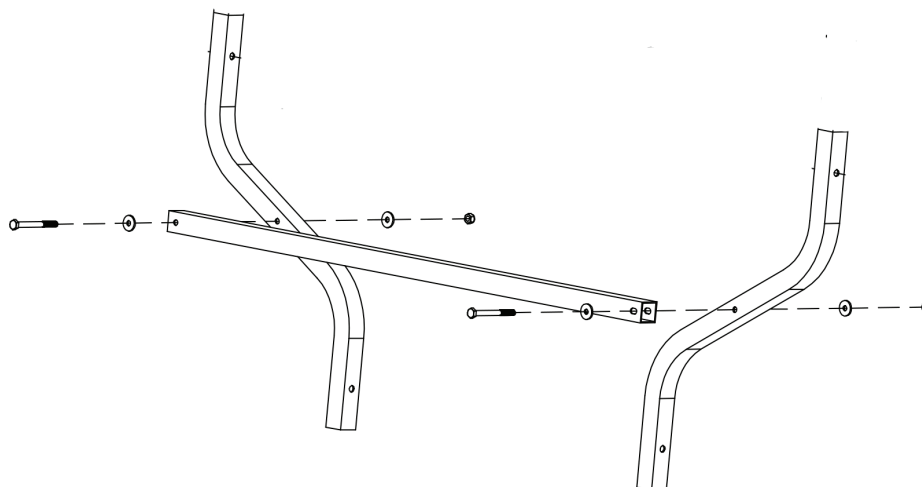

Figure 32
STEP 17: Assemble the ladder adapter using two (2) $\frac{1}{4}$ " x 2- $\frac{3}{4}$ " bolts, four (4) washers and two (2) nuts as seen in Figure 32. Do not tighten nuts yet.